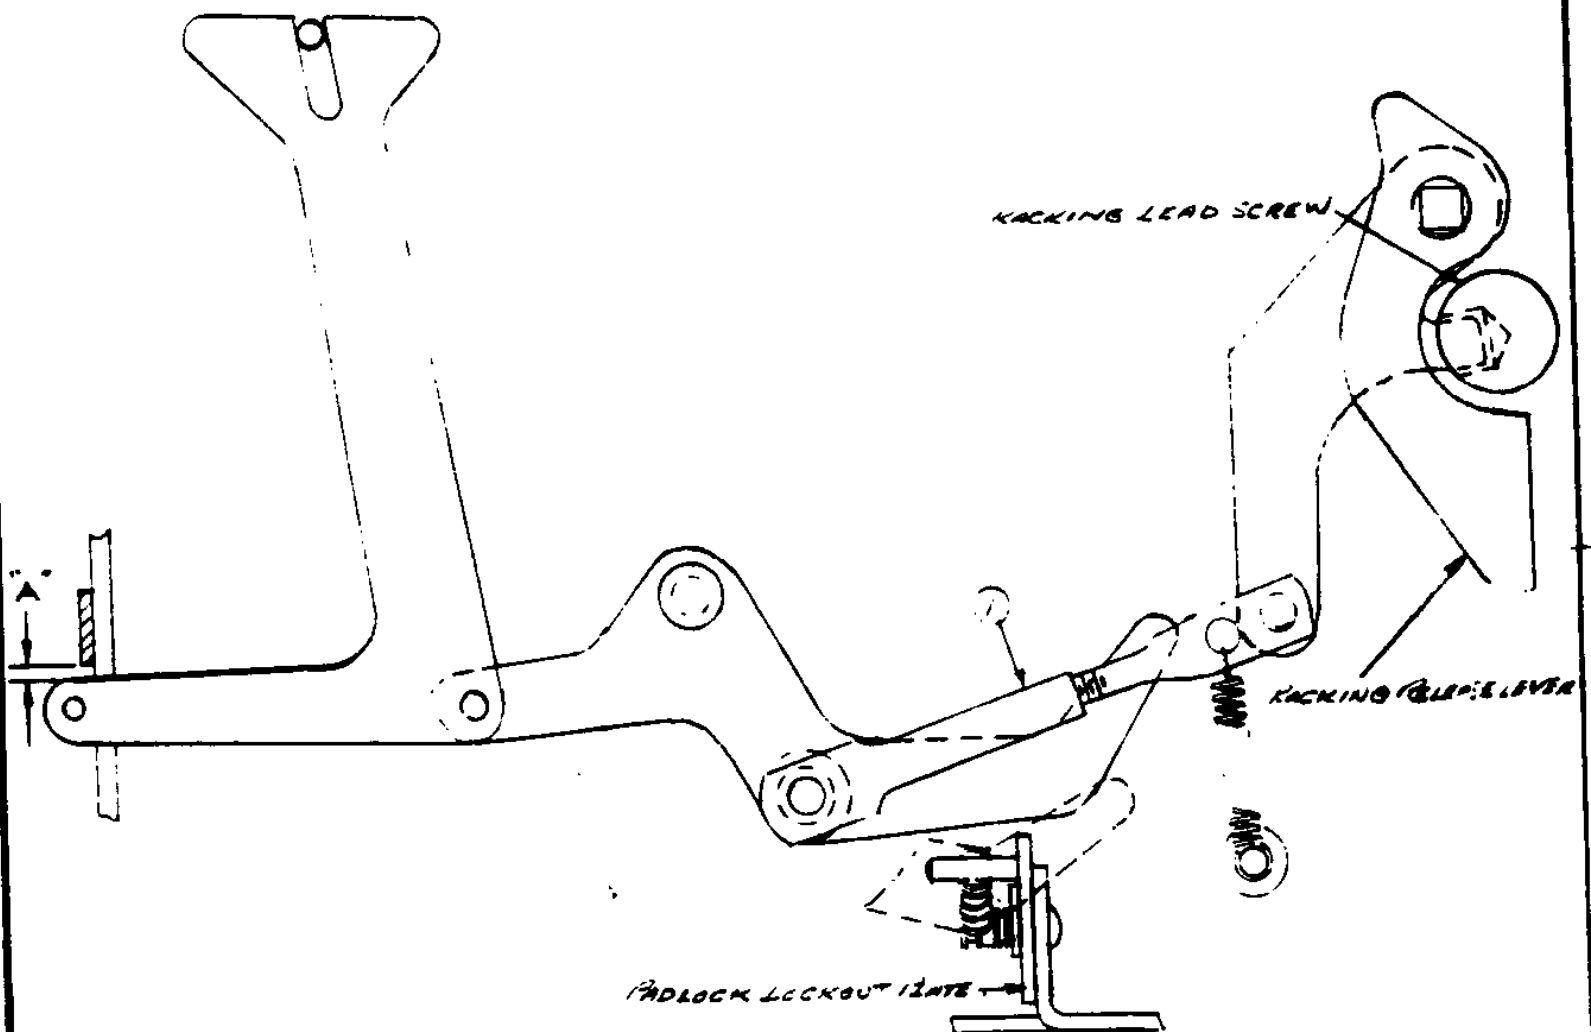

FIG. G-2
Breaker shall not close during racking operation. Make adjustments by turning, adjusting rod (1) Fig. G-2 to lengthen or shorten so that there is 1/8 inch minimum at Point "A".